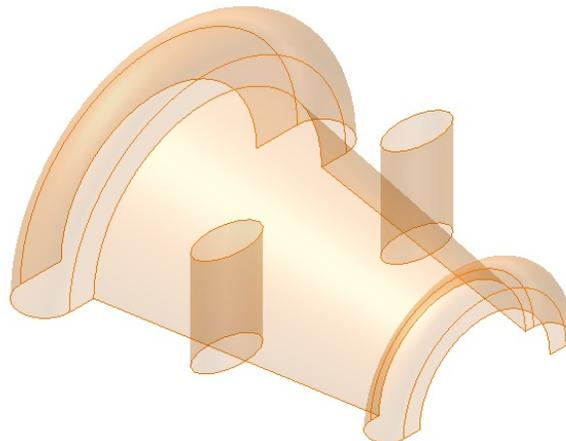

Figure 14-55 Model after creating the mirror feature
- c. Create two extruded surfaces, refer to Figure 14-55.
4. Select the extruded elliptical surface and then select **XZ Plane** as the mirror plane. Next, choose **OK** from the **Mirror** dialog box; the feature is mirrored, as shown in Figure 14-55.